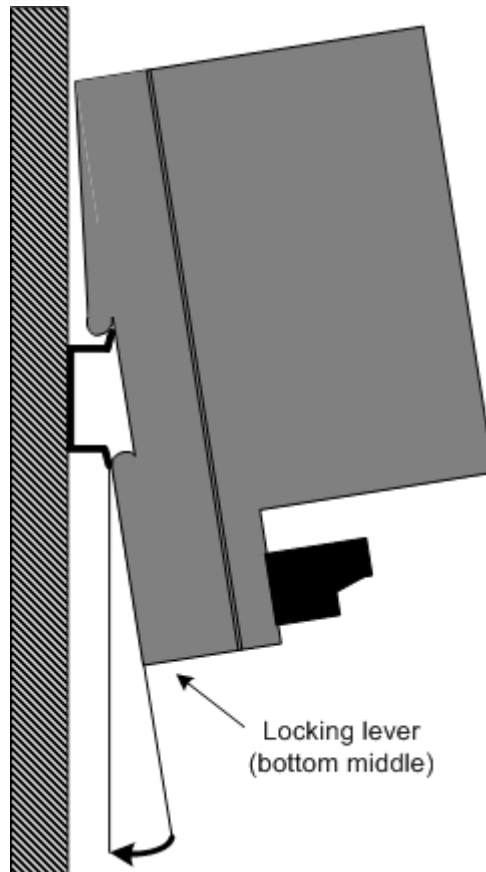

Fig. 14: Installing a PRB on a standard mounting rail
- The PRB must be installed horizontally on a vertical wall as shown in Fig. 14.
- Insert the upper locking hook on the PRB into the DIN rail and press the bottom surface, as shown in Fig.14, against the rail until the PRB clicks into place.